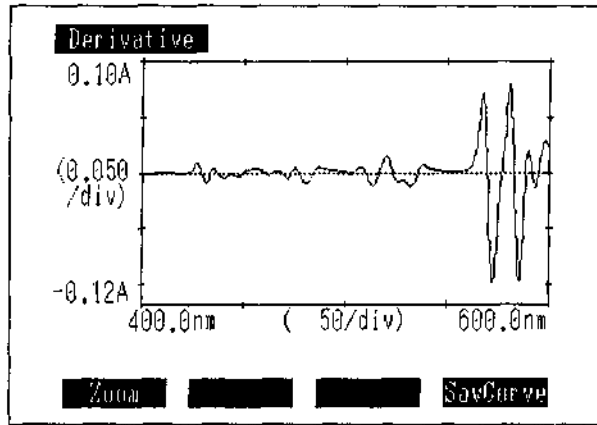

Fig. 8.10 Derivative results display screen
The results from the derivative of the curve data displayed in the derivative processing screen where ORDER=2 and $\Delta \lambda (N)=1$, are shown in Figure 8.10.